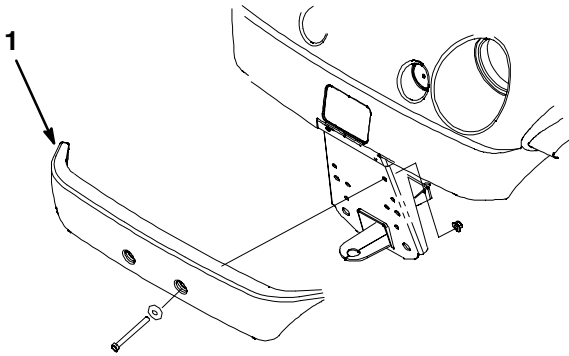

Figure 5
1. Remove the (2) capscrews, washers and nuts secured to the front of the frame.
2. Align the mounting holes and secure the bumper to the frame with the fasteners previously removed (Fig. 5).